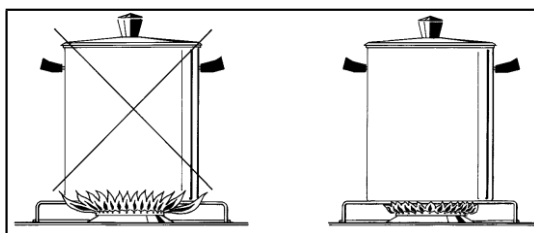

Fig. 21
- Use suitable pots for each burner (see tab. 5 and Fig. 21).